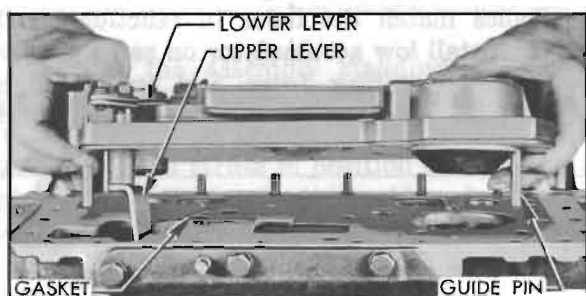
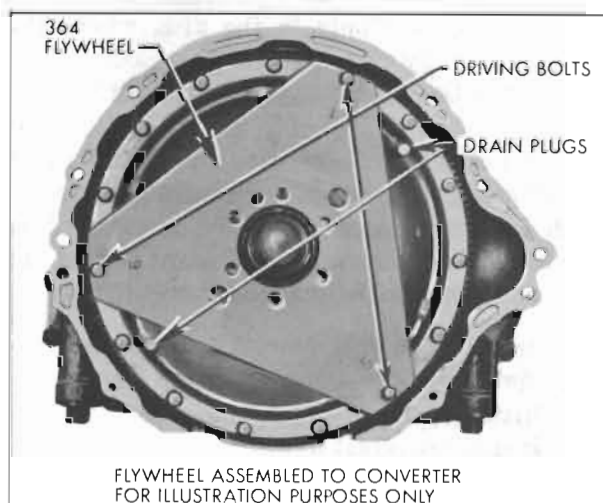

Figure 5-106—Installing Valve and Servo Body Assembly
Figure 5-114—Location of Driving Bolt Holes
3. Push shift control valve and lower operating lever inward to align the upper lever with opening in case and install the valve and servo body on transmission case. See Figure 5-106.
17. Refer to Figure 5-114 to determine which three bolt holes to leave empty for later installation of flywheel to pump driving bolts. See Figure 5-106.